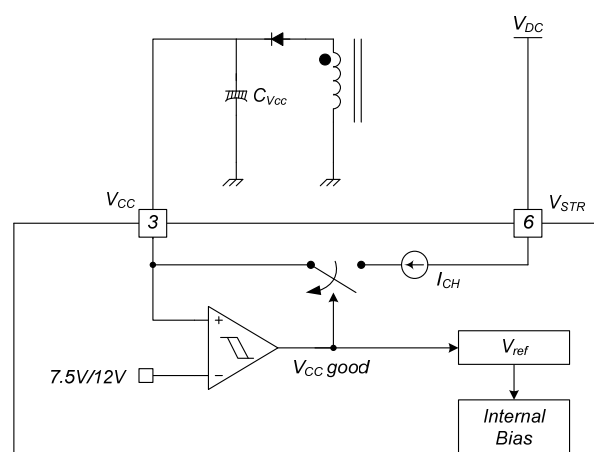

Figure 17. Startup Block
1. Startup: At startup, an internal high-voltage current source supplies the internal bias and charges the external capacitor (C_{VCC}) connected to the V_{CC} pin, as illustrated in Figure 17. When V_{CC} reaches 12V, the FSGM0465R begins switching and the internal high-voltage current source is disabled. The FSGM0465R continues normal switching operation and the power is supplied from the auxiliary transformer winding unless V_{CC} goes below the stop voltage of 7.5V.